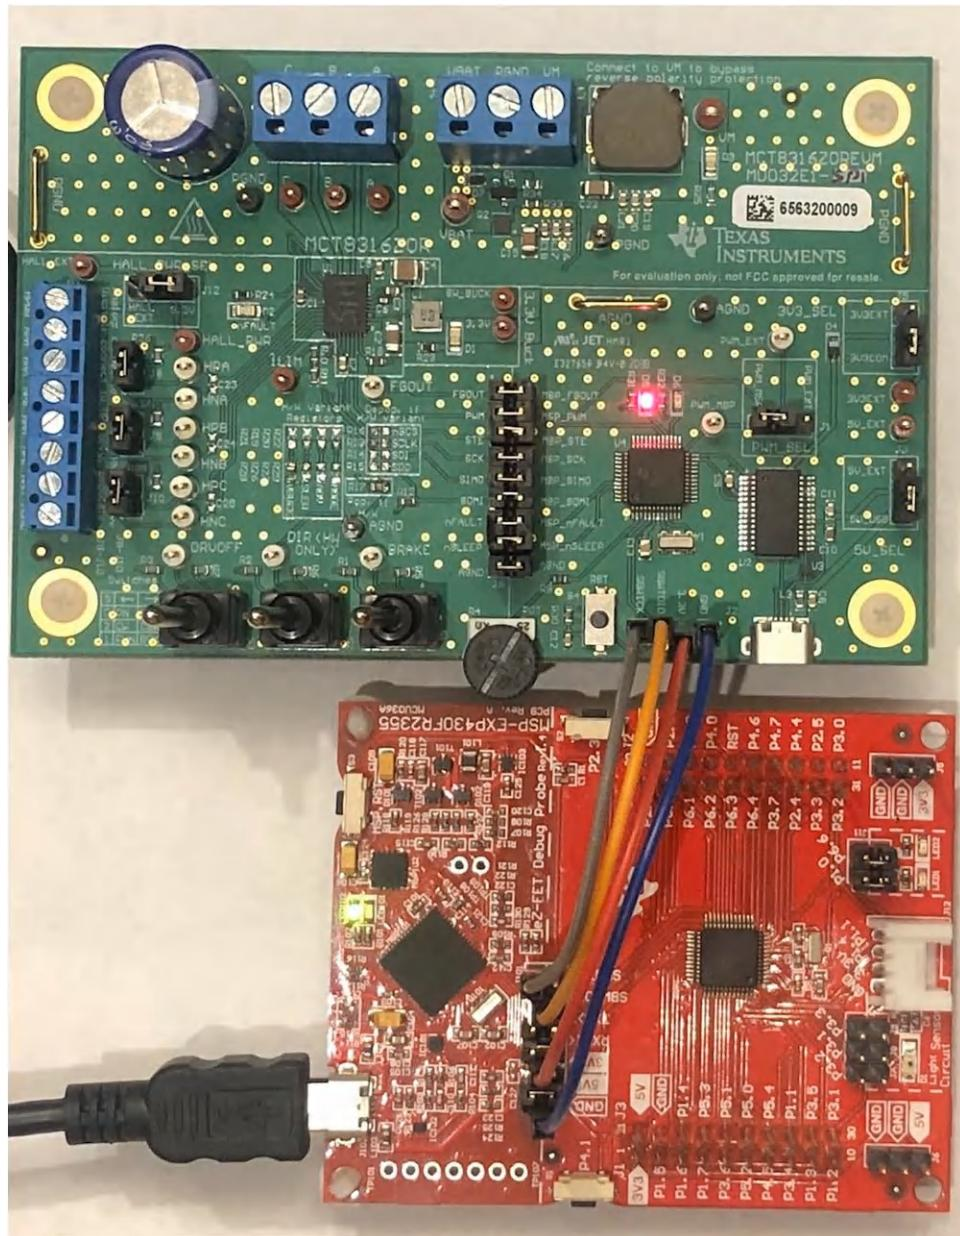

Figure 6-2. MSP430 LaunchPad™ eZ-FET Probe Connected to MCT8316ZTEVM
2. Connect the top pins on the eZ-FET side of the LaunchPad of the GND, 3V3, SBWTC, and SBWTDIO signals to their respective pins on J4 of the MCT8316ZTEVM as shown in Table 6-1 and Figure 6-2.